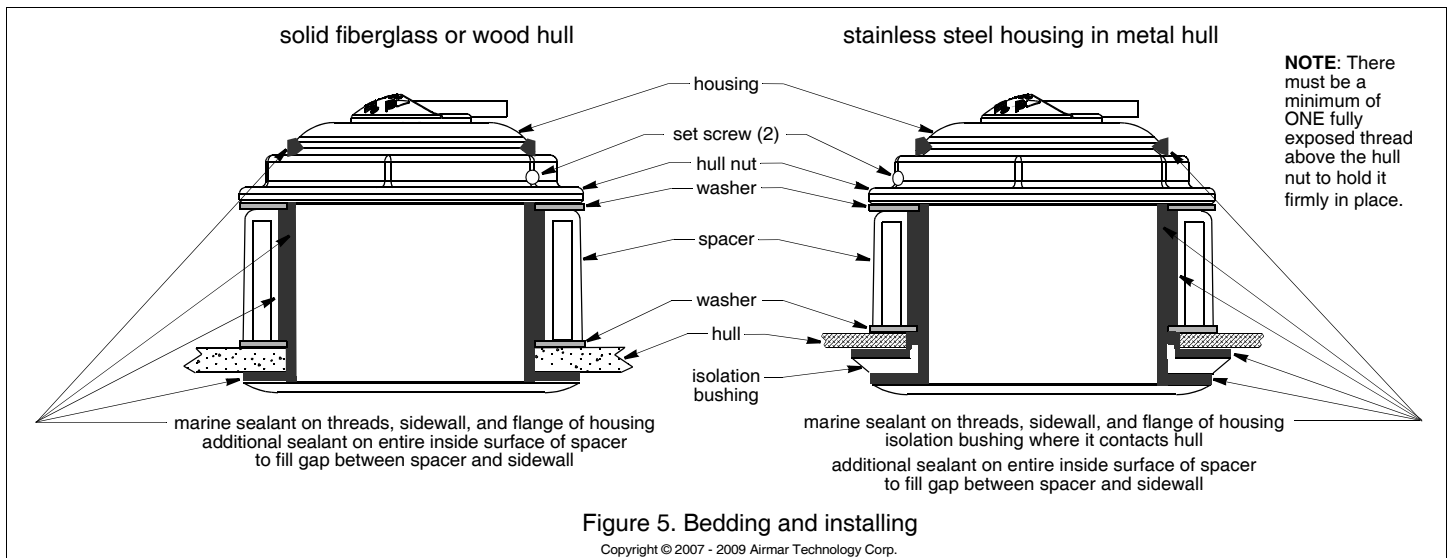
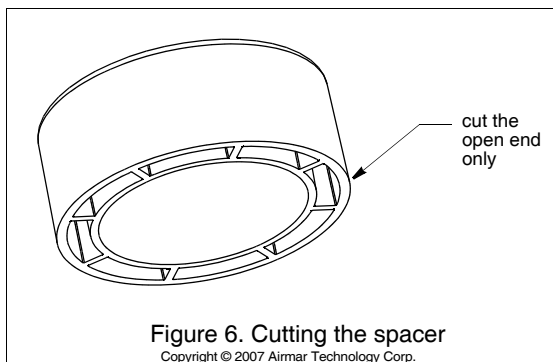

Figure 5. Bedding and installing
Figure 6. Cutting the spacer
4. Dry fit the transducer to determine if the spacer must be cut. From outside the hull, push the housing through the mounting hole (Figure 5). From inside, slide one of the washers onto the housing. Slide the spacer onto the housing with the open end facing the hull. Add the remaining washer. *Be sure a minimum of **THREE** threads are showing on the housing above the washer.* If not, cut the spacer to make it shorter. When cutting the spacer, *be sure to cut the open end* (Figure 6).
1. Apply a 4 mm (1/8") thick layer of marine sealant to the flange, sidewall, and threads of the housing (Figure 5). The sealant must extend 12 mm (1/2") higher than the combined thickness of the hull, spacer, and hull nut. This will ensure there is marine sealant in the threads to seal the hull and to hold the hull nut securely in place.
2. From inside the hull, slide one of the washers onto the housing (Figure 5). Slide the spacer onto the housing until the open end rests against the washer. Add the remaining washer. **Be sure a minimum of THREE threads are showing on the housing above the washer.** If not, make the spacer shorter by cutting the open end (Figure 6).